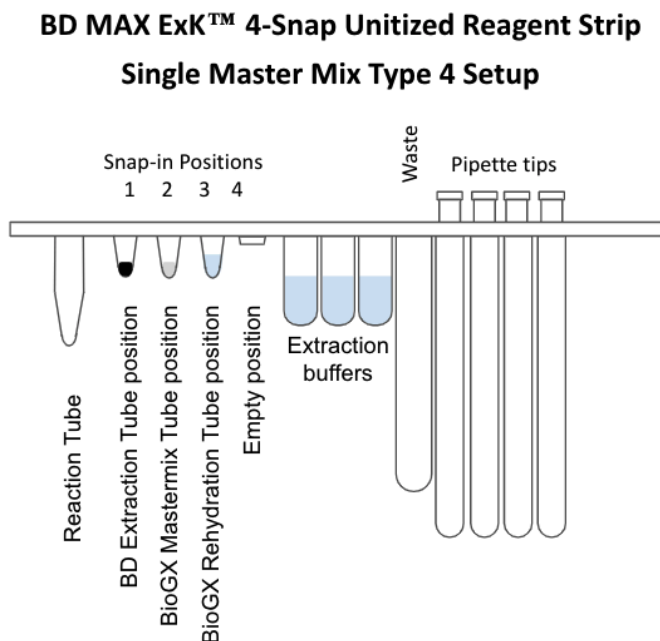

Figure 1. Diagram of BD MAX™ ExK™ 4-snap Unitized Reagent Strips.
3. Snap one BD MAX™ ExK™ DNA Extraction tube into snap-in position 1 (Snap-1) of each extraction strip (**Figure 1**).